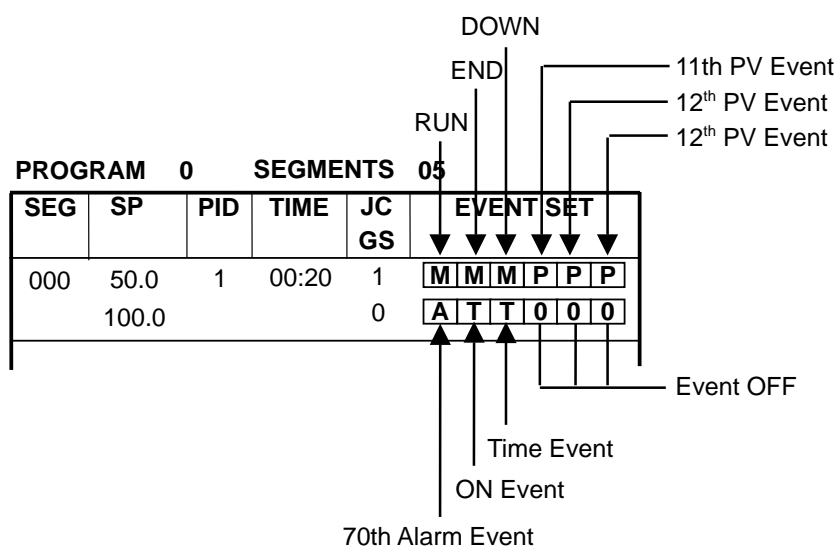

Fig. 3.10.2 The part to arrange PV and Time events to digital outputs on SEG EDIT screen of User Manual
2. When Program control and Synchronous mode, if you need 3 mode events (RUN, END, DOWN), 3 PV events (21,26,27), 1 Alarm event (70), 2 Time Events (1,13), You can arrange the events like below, in case that set them to segment No. 0 of program No. 0. And like Figure 3.10.2, the event part has to be set in Segment Edit screen.
| 4 | 11 | PV Event PV/ABS/LOW(CH 1) | Set the event number in segment No. 0 of program No. 0 like Figure 3.10.2 in Segment Edit screen.(Refer to User manual) Event numbers are equal to 12 but the OP Point or Differential value can not same with each other. |
| 9 | 2 | Time Event | Set the event number in segment No. 0 of program No. 0 like Figure 3.10.2 in Segment Edit screen.(Refer to User manual) |